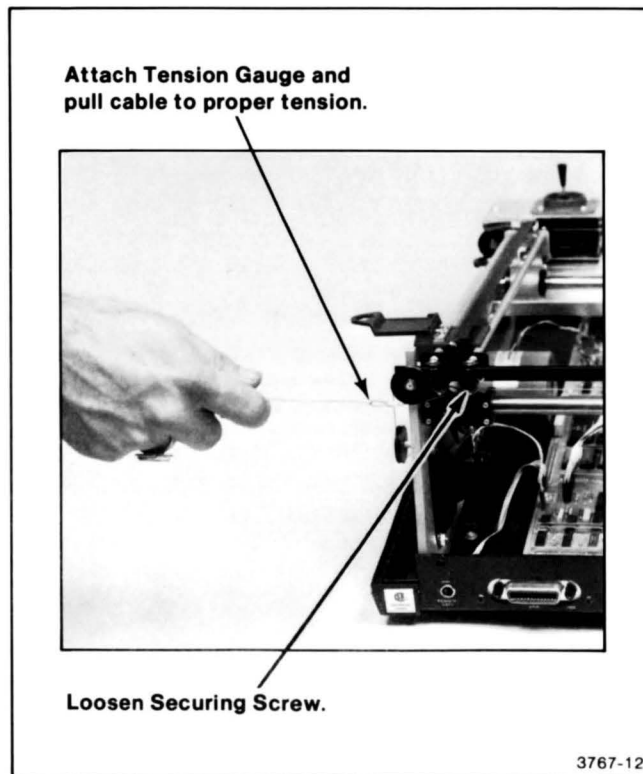

Figure 2-6. X-Axis Pen Drive Cable Tension Adjustment.
3. **Feed** the looped end of the X-axis cable between the top portion of the right side frame and the trim strip so that you can obtain a straight pull (see Figure 2-6).
4. **Attach** a push-pull scale to the looped end of the X-axis cable (see Figure 2-6). This cable is larger in diameter than the Y-axis cable tensioned earlier and is attached to the rear end of the Y-axis arm. If the cable does not have a loop, simply tie a knot (such as a bowline knot) in the cable to provide a loop.